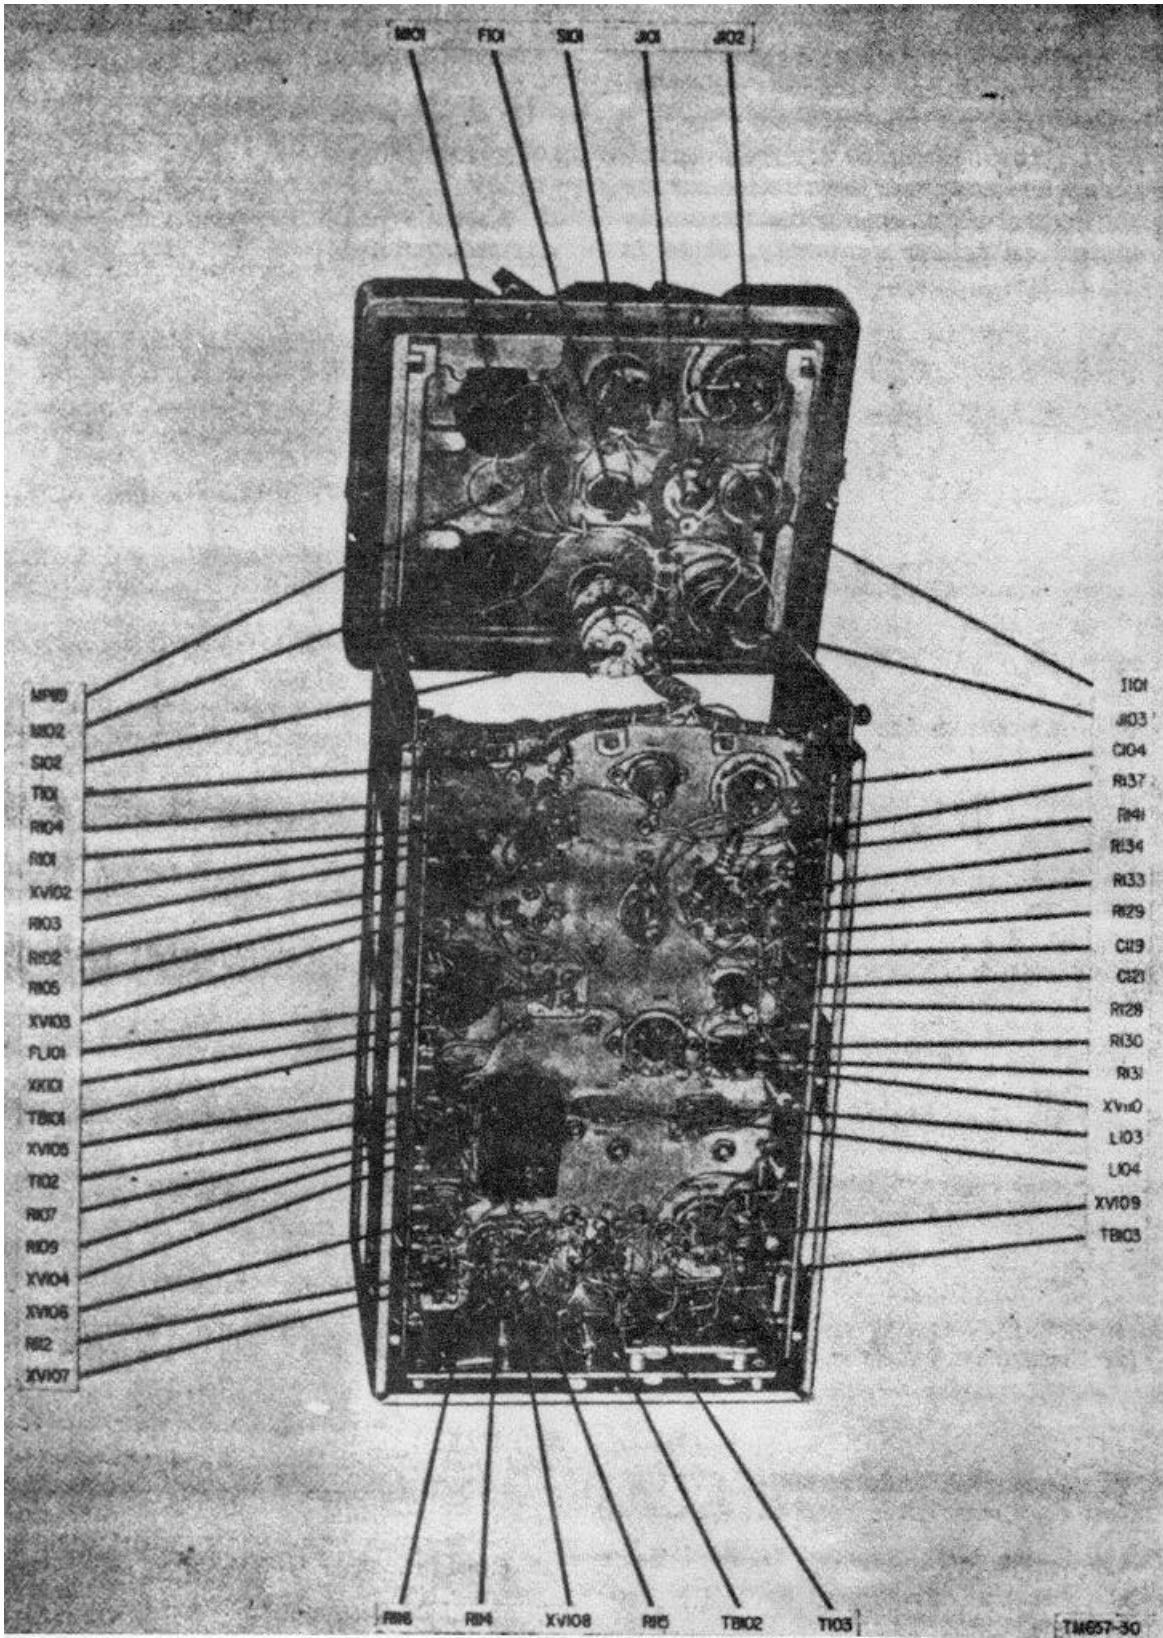

Figure 20. Front panel tilted on chassis.
- (1) Remove the case from the chassis (par. 36).
- (2) Unsolder and remove the defective diode from the resistor board (fig. 20 TB101).
- (3) Remove excess solder and clean the lugs on the resistor board.